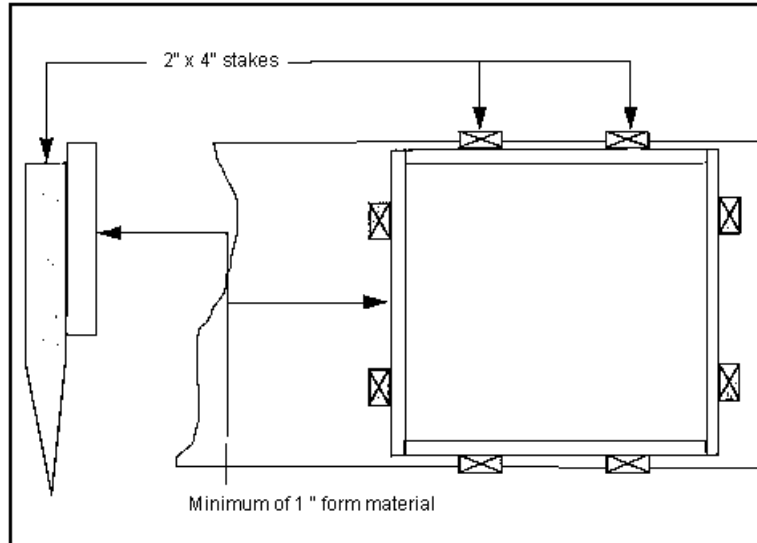

Figure 051-236-1166-2
2. Construct a wooden-form slab (Figure 051-236-1166-2).